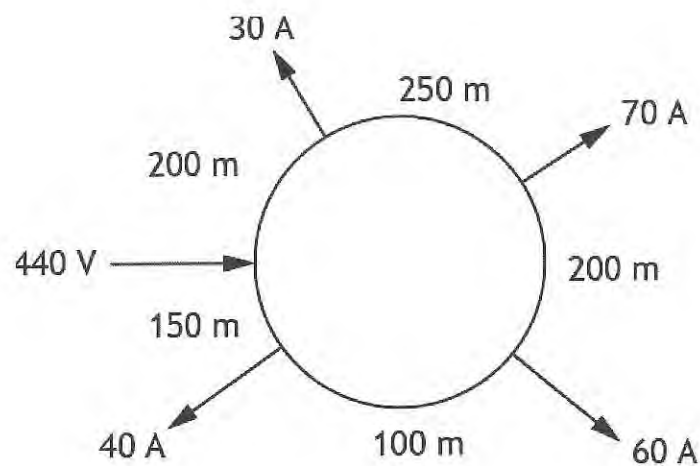

Fig Q1
1. Fig Q1 shows a ring main distributor fed at one point at 440 volts. The distances between the various loads are given in metres and the two cables has a go and return distance of  $0.02 \Omega$  per 100 metres.